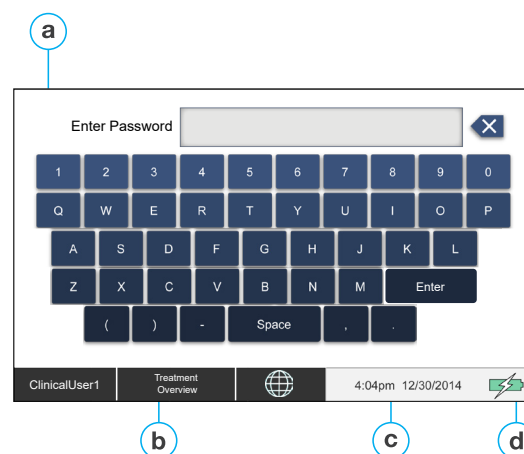

Figure 7 The parts of the Base Station Touchscreen
- **Base Station Touchscreen** – Used to initially set up treatment and to access help information during treatment (see Figure 7).